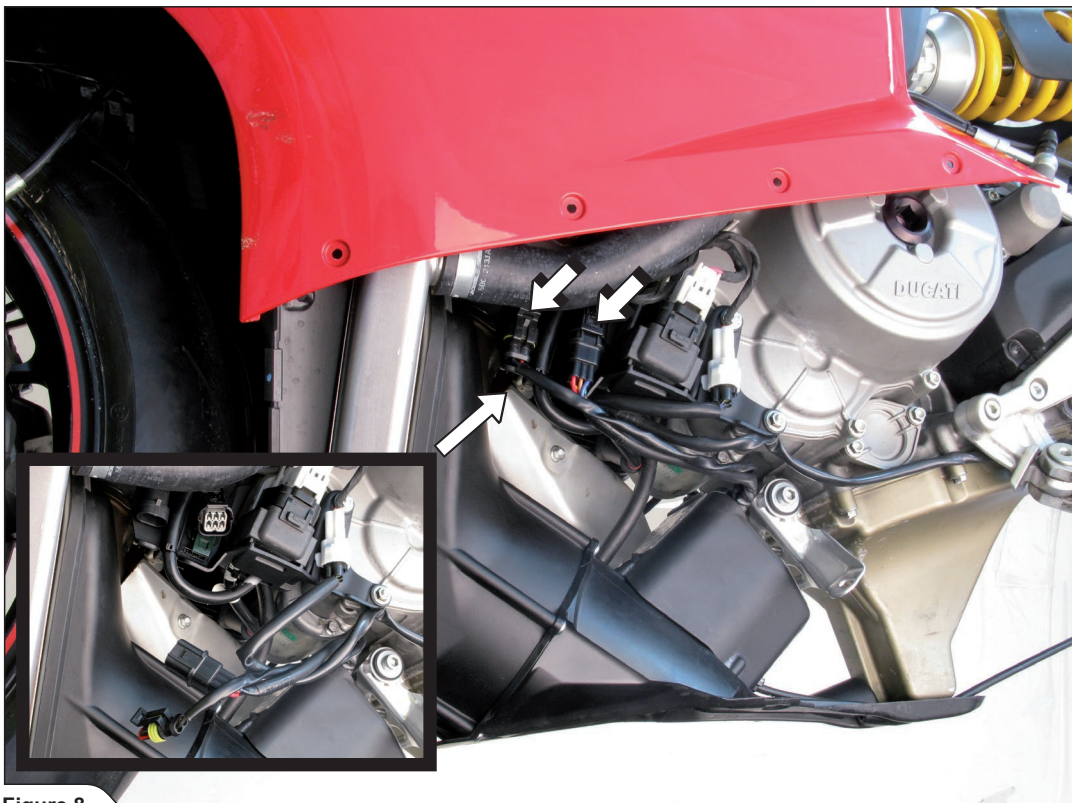

Figure 8
5. Disconnect the marked connectors (Figure 8).